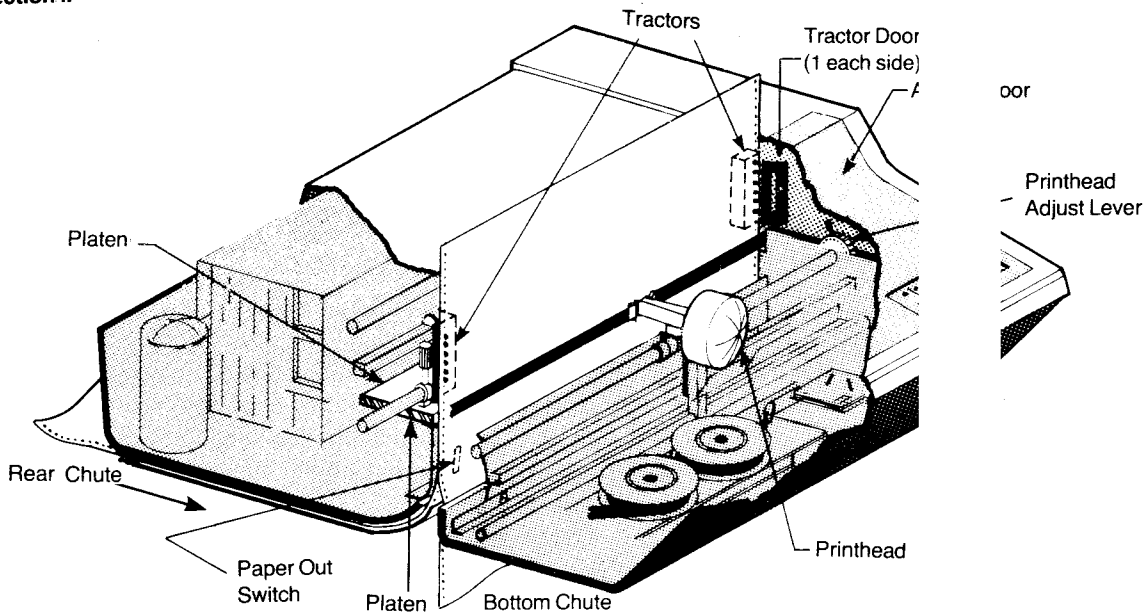

Figure 2-6. Paper Loading
- j. Check the paper supply is aligned with the paper path (paper must not rub the sides of the chute) and that the PAPER OUT switch (Figure 2-6) is actuated.